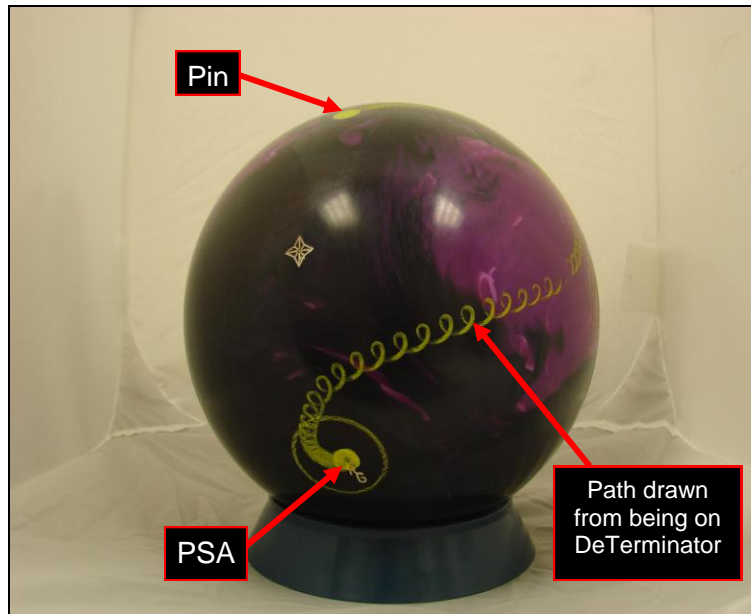

Figure 1 - Asymmetrical bowling ball just after being spun on the DeTerminator
8. Remove the bowling ball from the DeTerminator and place in a ball cup. See Figure 1 which displays the marked PSA and shows the grease pencil path drawn on the bowling ball from step 6.